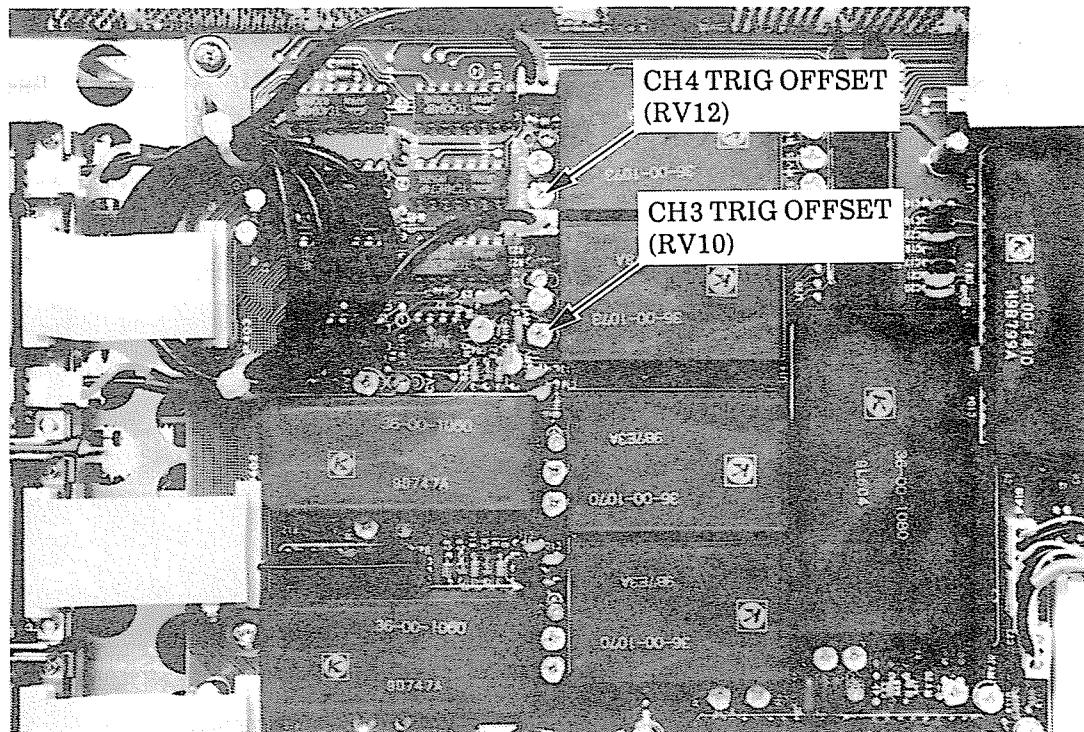

Fig. 4-26 Adjustment positions of CH3 and CH4 TRIG OFFSET (RV10 and RV12)
- (1) Set "VERT MODE" to "CH3", and set the input deflection factor to 0.1 V.
- (2) Set the input coupling of CH3 to "AC", and connect the signal output to CH3.
- (3) Set "TRIG COUPLING" to "AC", and adjust "TRIG LEVEL" so that the trigger point moves to the center of the amplitude of the waveform.
- (4) Confirm that when "TRIG COUPLING" is switched from "AC" to "DC", or vice-versa, the trigger point does not move at the center of the amplitude of the waveform. If it does, adjust CH3 TRIG OFFSET (RV10) on board A4 shown in Fig. 4-26.
- (1) Set "VERT MODE" to "CH4", and set the input deflection factor to 0.1 V.
- (2) Set the input coupling of CH4 to "AC", and connect the signal output to CH4.
- (4) Confirm that when "TRIG COUPLING" is switched from "AC" to "DC", or vice-versa, the trigger point does not move at the center of the amplitude of the waveform. If it does, adjust CH4 TRIG OFFSET (RV12) on board A4 shown in Fig. 4-26.